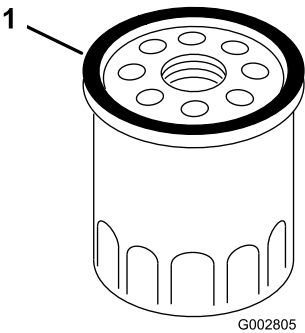

Figure 28
8. Use your finger to coat the gasket on the new filter with oil (Figure 28).